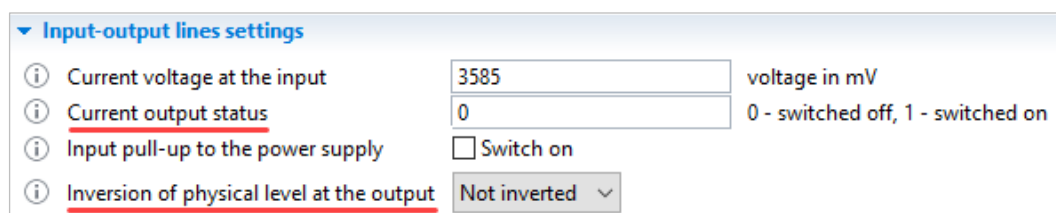

Fig. 38. Output line configuration window.
In the disabled state the output is open, and in the closed state it is closed to ground (0). The **Current output status** parameter has two values: **0** – *switched off* (configured by default) and **1** – *switched on* (Fig. 38).